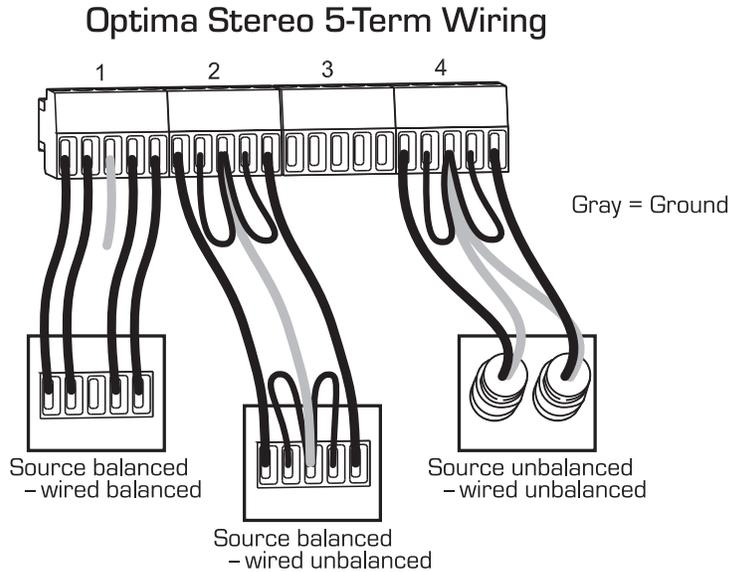

FIG. 60 Options for source-to-Optima 5-Term wiring
2. Wire the audio connector (FIG. 60 right shows unbalanced audio).